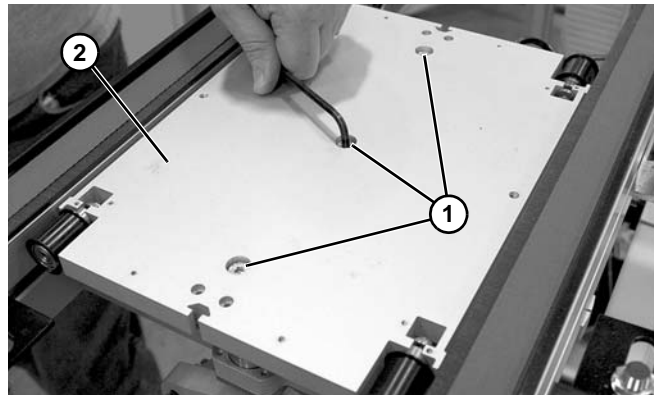

Figure 110
4. While supporting drive assembly in place, remove socket head screws (**Figure 110, item 1**) and top plate (**Figure 110, item 2**).